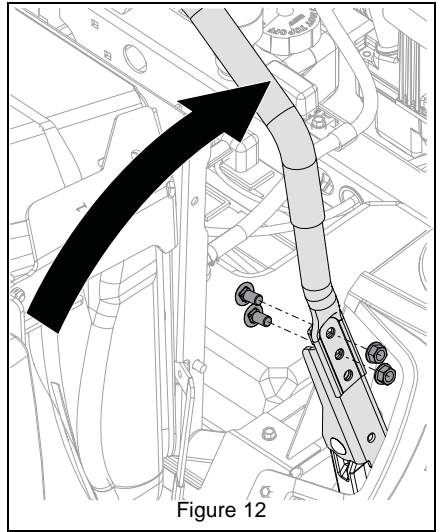

Figure 12
- Place steering lever in the upright position and adjust lever height. See Figure 12.